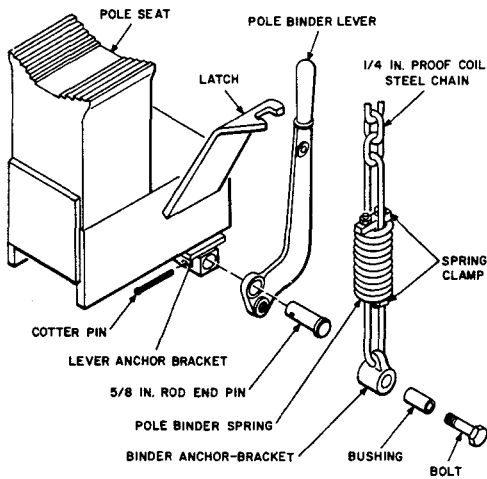

Fig. 8—Front King Pole Binder Parts
4.03 The front pole binder assembly consists of the pole seat, a pole binder lever, a latch to hold the lever in the operated position, and a spring-loaded chain to bind the pole. The rear binder is essentially the same, except the pole seat is not an integral part of the binder and must be attached to the trailer frame separately. Fig. 8 and 9 show front and rear king pole binder parts.